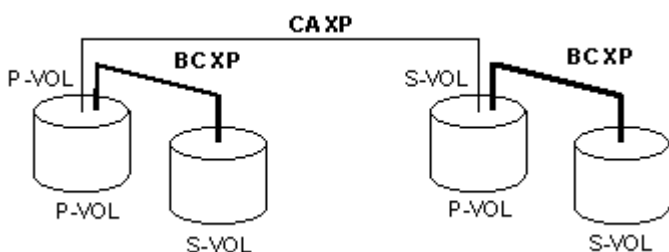

Figure 286 Shared CA/BC P-VOL and shared CA S-VOL/BC P-VOL
- **Figure 286** combines the configurations shown in the two previous figures. Within a single CA pair, the P-VOL and S-VOL function as BC P-VOLs, providing multiple copies at primary and remote sites.